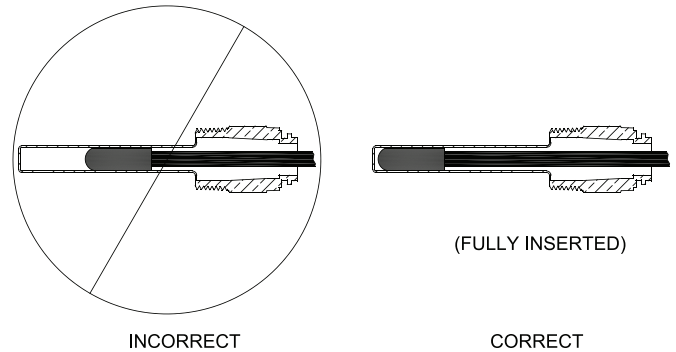

Figure 6: Limit Sensor Insertion
c. Locate the Limit sensor inside Boiler Control. Carefully connect sensor into the Boiler Control circuit board by pressing connector on sensor unit into mating connector on circuit board (refer to Figure 40). Insert sensor through hole in circuit board and into immersion well until it rests against the bottom of the well as shown in Figure 6.